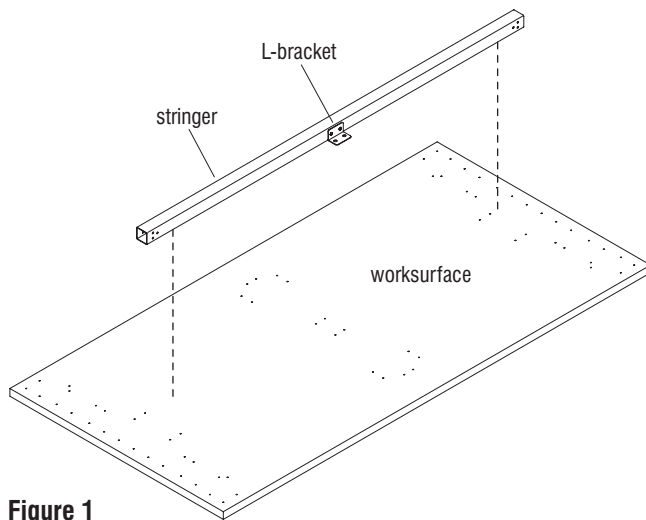

Figure 1
2. Place worksurface upside down on a soft, protective surface. If stringer is provided, position it onto the center of the worksurface underside, aligning the L-bracket mounting holes on the stringer with the pre-drilled holes on the worksurface (Figure 1).